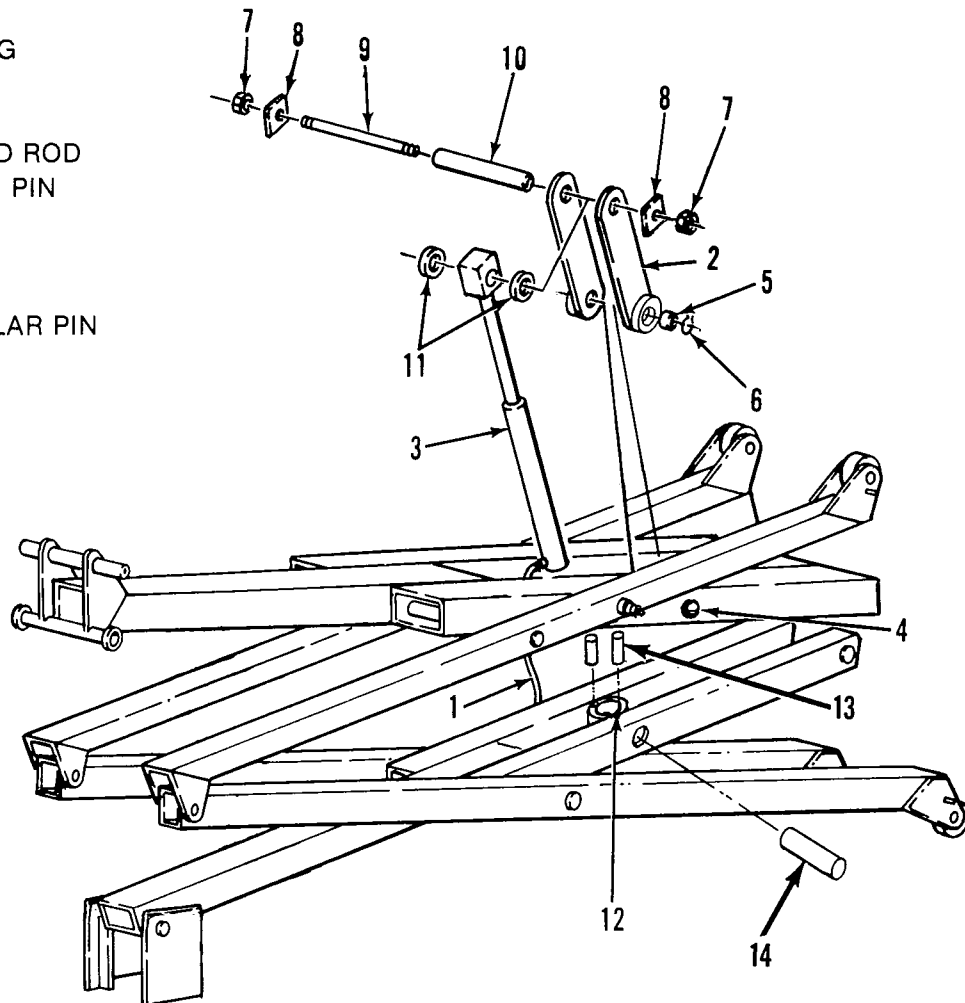

Figure 5-18. Lift Cylinder Removal, XL-14
5-24. LIFT CYLINDER, XL-14 (Figure 5-18).
- (1) Remove the platform floorboard.
- (2) Refer to Figure 5-18 and remove the nuts (7) and washer (8).
- (3) Slip the threaded rod (9) and cylinder pin (10) to one side to allow plate (2) to swing free. Lower the plate (2) and repeat same procedure for opposite side.
(4) Provide a suitable container to catch the draining hydraulic fluid then, disconnect the hydraulic hose (7) and fitting from the base of the lift cylinder (3) and plug hose to prevent foreign material from entering.
(5) Attach a suitable hoisting device and sling to the top of the lift cylinder (3).
(6) Remove drive pins (13), cylinder collar pins (14), and lift cylinder (3) from the collar (12) to a prepared work area.
(1) Refer to Figure 5-18 and assemble the lift cylinder (3), cylinder pin (10), spacers (11), and threaded rod (9).
(2) Attach a suitable hoisting device and sling to the top of the lift cylinder assembly, and position the cylinder over the collar (12) then, lower the lift cylinder through the collar.
(3) Replace cylinder collar pin (14) and drive pins (13) to secure lift cylinder in collar.
(4) Connect the hydraulic hose (1).
(5) Slide the cylinder pin (1) and threaded rod (9) to one side. Raise the plate (2), of the opposite side, into position. Slide the cylinder pin (10) and rod (9) threaded through the plate (2) a sufficient distance to allow the other plate (2) to be raised into place. Center the cylinder pin (10) and threaded rod (9) then install the washers (8) and nuts (7).